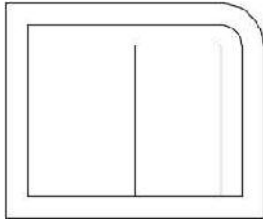

FIGURE 2.28: Offsetting the second line of the opening
5. Click the new line, and then pick a point to the left. Press ↵ to end the `OFFSET` command (see Figure 2.28).